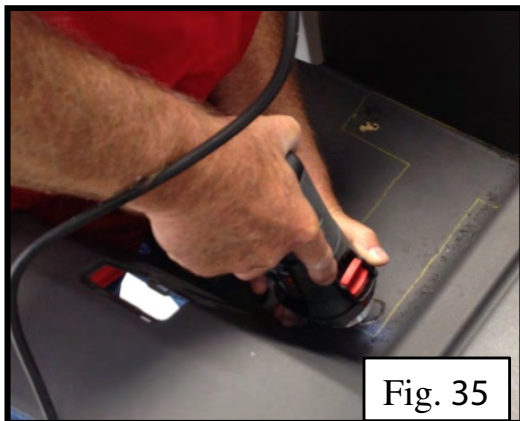

Fig. 35
1. Using cutting tool, cut side panels removed previously and top panel still installed along the traced lines from the template (Fig.35).